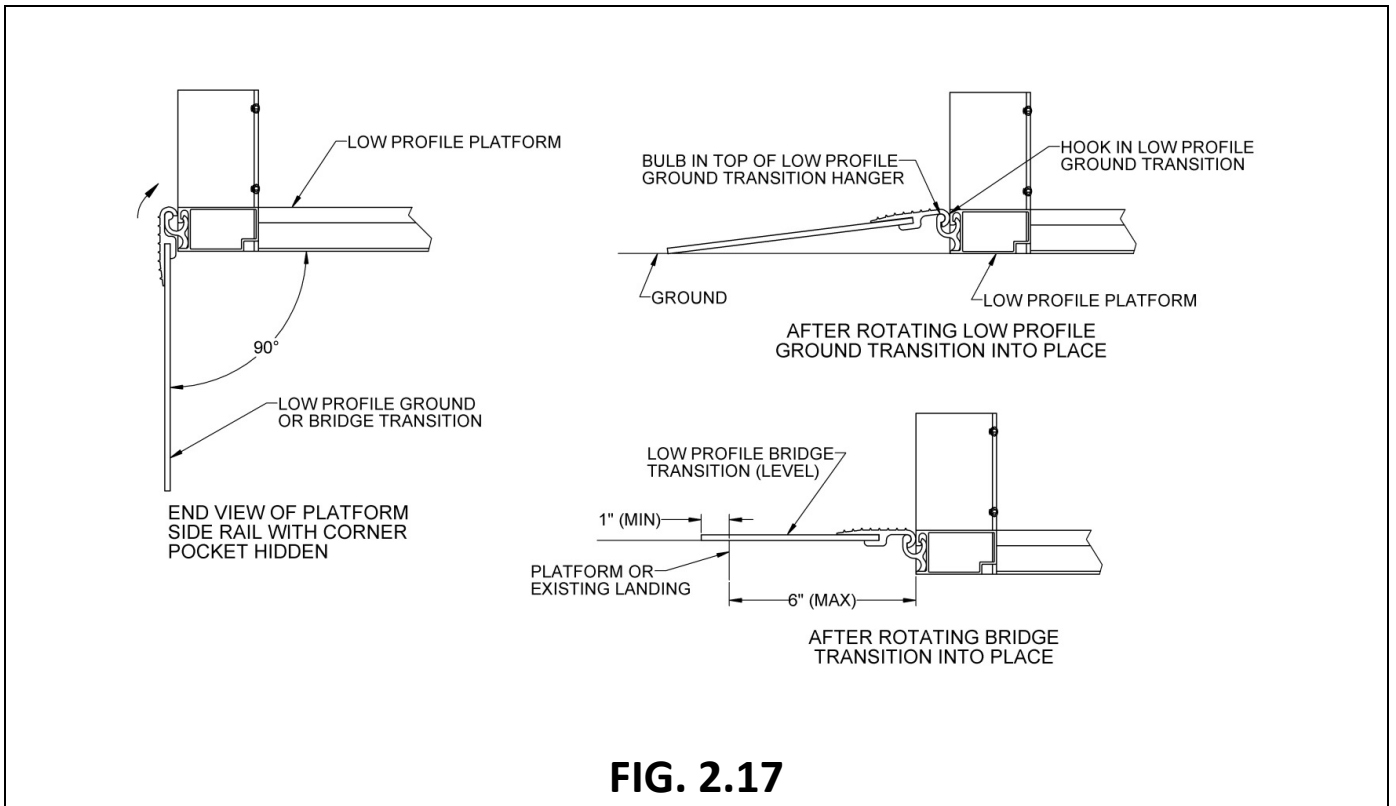

FIG. 2.17
- 2.6.7.6. Rotate the low profile ground or bridge transition until hook in transition is captured between the bulb in the top of the low profile ground transition hanger and the platform side rail and the ground or bridge transition is parallel with the platform (FIGs. 2.17 and 2.18).